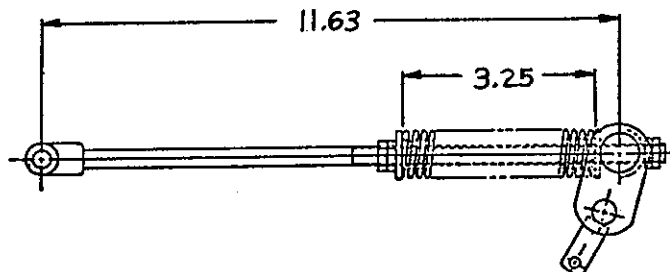

Fig. 7 Brake Control Link and Spring Adjustment
- Check the compression spring length and adjust to 3.25 as required. See Figure 7.